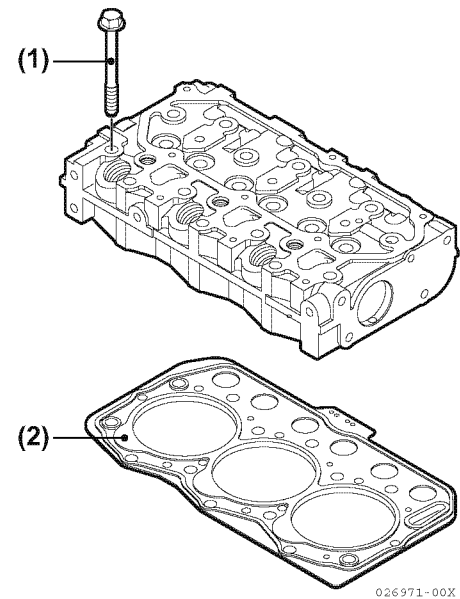

Figure 6-7
2. Remove the cylinder head bolts (Figure 6-7, (1)).
3. Lift the cylinder head away from the cylinder block. Discard the cylinder head gasket (Figure 6-7, (2)). Position the cylinder head on the work bench to prevent damage to the combustion surface.